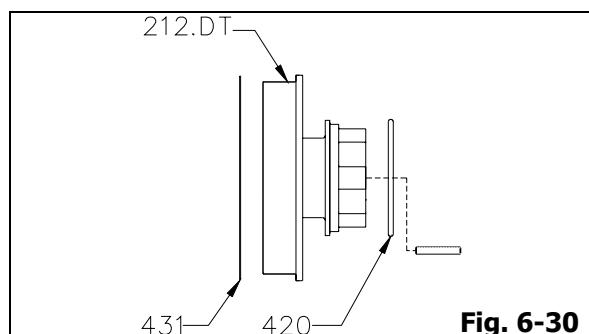

Fig. 6-30
- Remove stuffing box cover "O" ring (420), stuffing box cover gasket (431) and two (2) seal cover studs from stuffing box cover (212.DT) (Fig. 6-30).